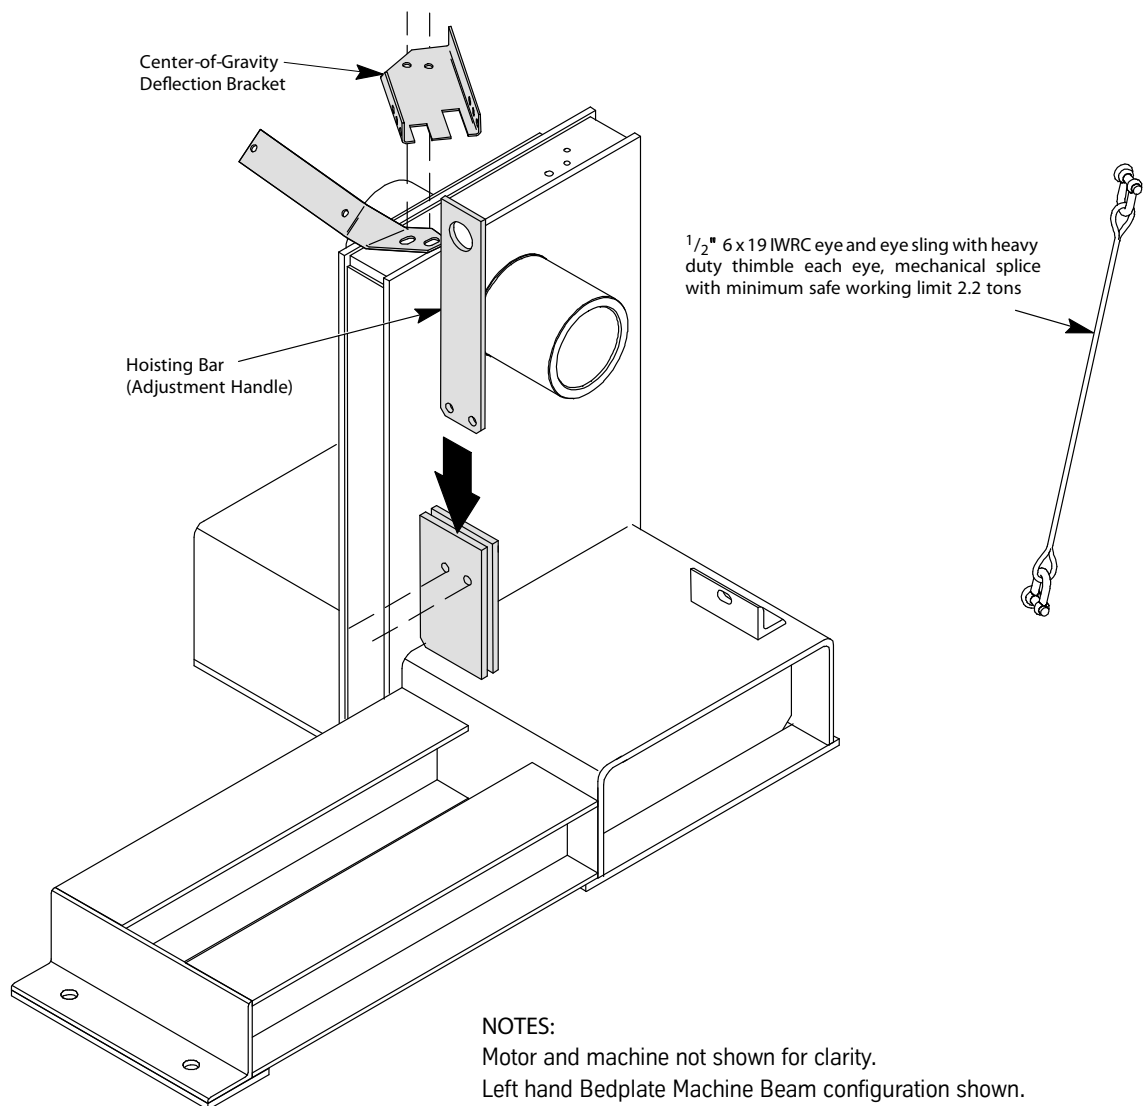

Figure 1 - Recommended Hoisting
1. Ensure that the two (2) bolts holding the hoisting bar in place are securely tightened.
2. Attach the center-of-gravity deflection bracket. See Figure 1.
- a. Remove the two (2) bolts that hold the drive sheave guard in place.